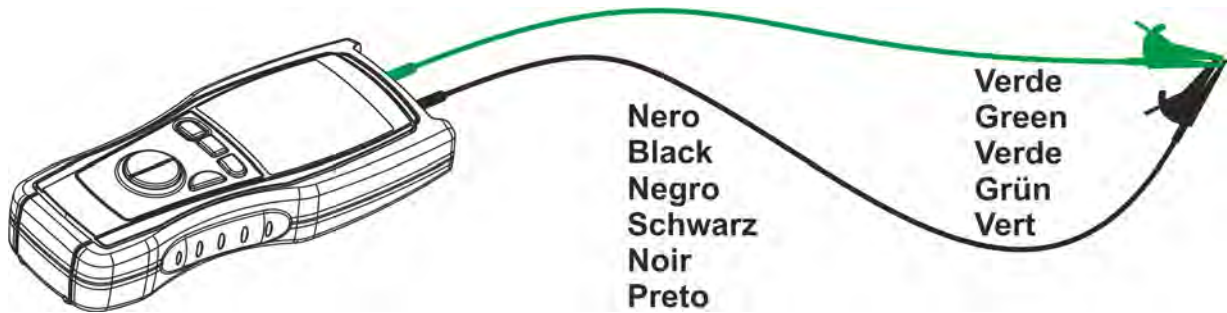

Fig. 6: Connection of the instrument's terminals during calibration procedure
2. Short-circuit the cable ends with each other as shown in Fig. 6 making sure that the metallic parts of test probes and crocodiles are in good touch